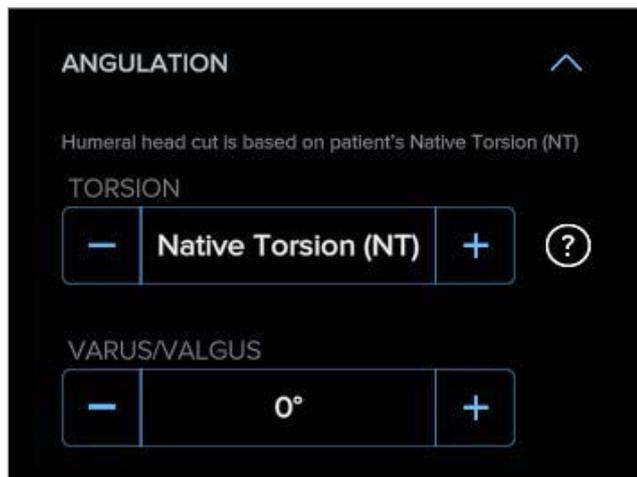

Figure 58. Angulation control
### Angulation: Reverse (Figure 58)
- The  shown in Figure 58 displays the definition of torsion, which some literature uses interchangeably with version.